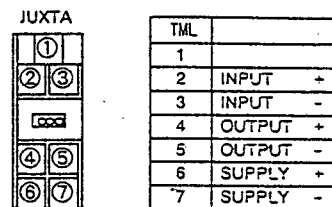
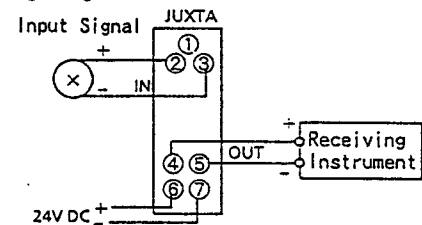

Fig. 8: Terminal Arrangement
Fig. 9: Wiring Diagram
- ① See Fig. 8 for terminal arrangement.
- ② Connect input signal cable to transmitter terminals 2(+) and 3(-).
- ③ Connect transmitter output signal cable to its terminals 4(+) and 5(-).
- ④ Connect 24V DC power cable to transmitter terminals 6(+) and 7(-). (See Fig. 9)